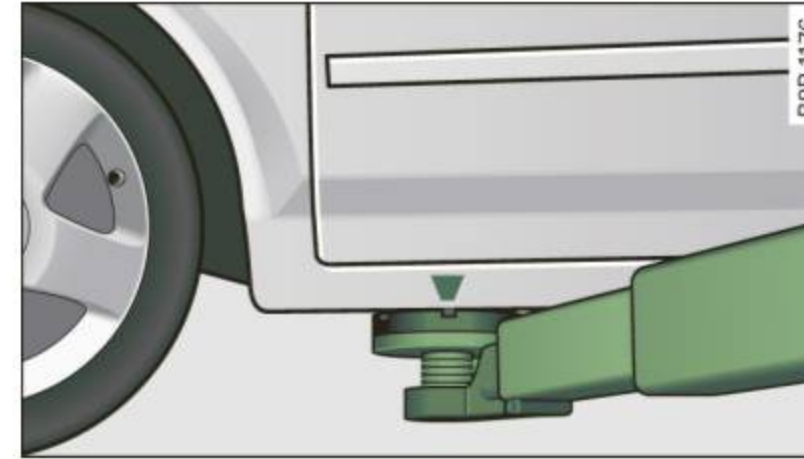
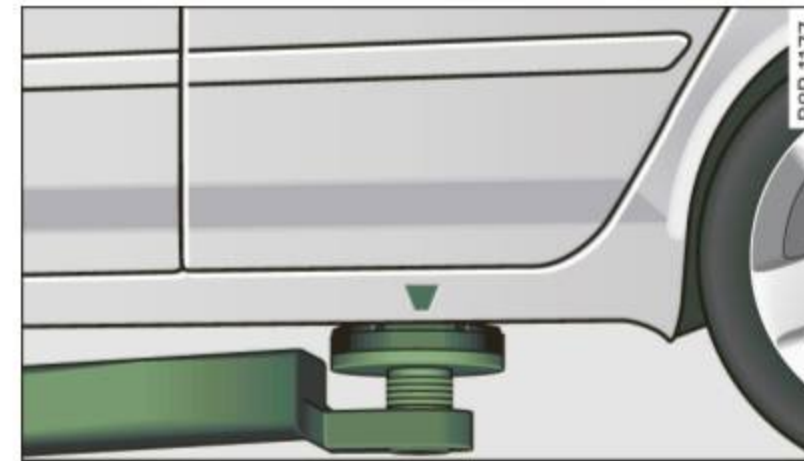

Fig. 225 Front lifting point
Fig. 226 Rear lifting point
- Always lift the vehicle only at the special workshop hoist and floor jack lift points illustrated ⇒ fig. 225 and ⇒ fig. 226.
- Locate lifting points ⇒ fig. 225 ⇒ fig. 226.
The lifting point is located on the floor pan reinforcement about at the same level as the jack mounting point ⇒ *page 320*, fig. 225. **Do not lift the vehicle at the vertical sill reinforcement.**
The lifting point is located on the vertical reinforcement of the lower sill for the onboard jack ⇒ *page 320*, fig. 226.